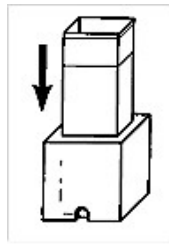

Fig. 3
2. Position the *Gel-PICK™*, containing the DNA band gel piece, into the *Gene-TRAP™* (see Fig 3). Always introduce the cutting end of the *Gel-PICK™* into the *Gene-TRAP™*. Push until it locks in place.